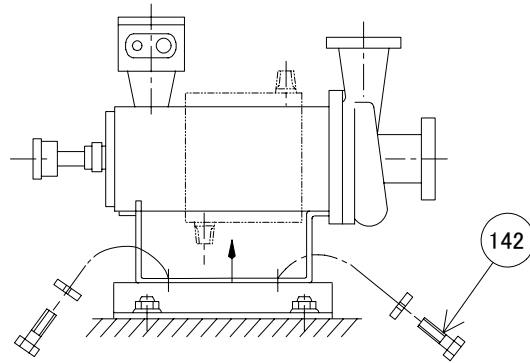

Fig.4-4 Removal of the Pump from the Base
(3) Remove pump inlet and outlet pipings.
(4) Remove the pump and the base.
In the case of horizontal type, remove bolts (142) which connect the stand (S17) to the base (B05). (Refer to Fig.4-4.)